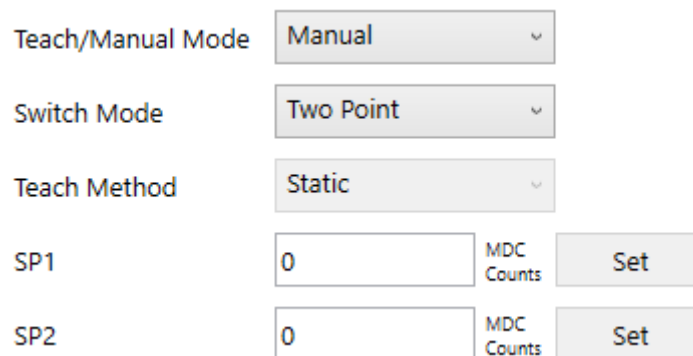

Figure 129. Setpoint fields in Manual Mode, Two Point Mode
- Manual: allows the user to manually enter switching values in input fields and clicking the “Set” button (Figure 129). It enables the drop-down list “Switch Mode”.